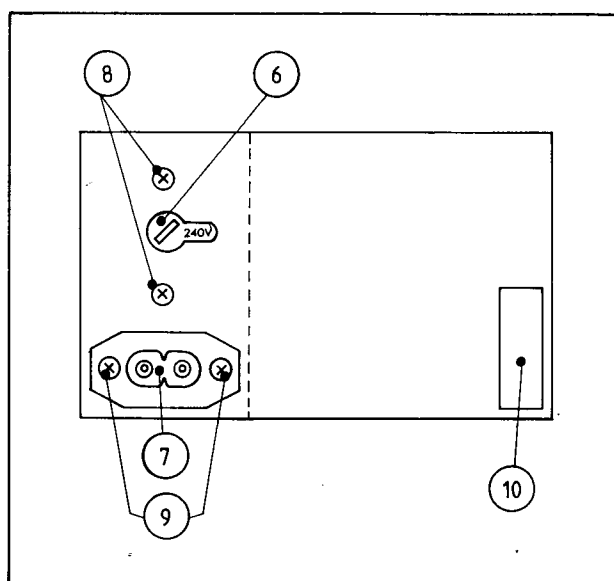

Fig 3.32 AC Adaptor Rear View
- (5) Remove the two screws ⑧ (Fig 3.32)
- (6) Remove the selector from inside the adaptor body
- (7) Remove the two screws ⑨ (Fig 3.32)
- (8) Withdraw the socket through the rear of the adaptor.
- (1) The mains lead, which plugs into the mains input socket ⑦ (Fig 3.32) at the rear of the adaptor